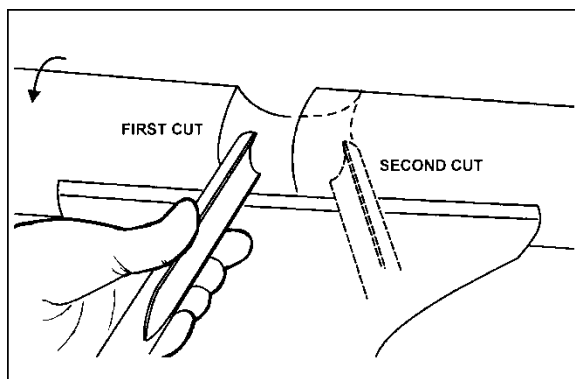

Figure 23
- Use a spindle gouge. With the flute of the tool at 90 degrees to the workpiece, touch the point of the tool to the workpiece and roll in towards the bottom of the cove. See Figure 23. **Stop at the bottom; attempting to go up the opposite side may cause the tool to catch.**